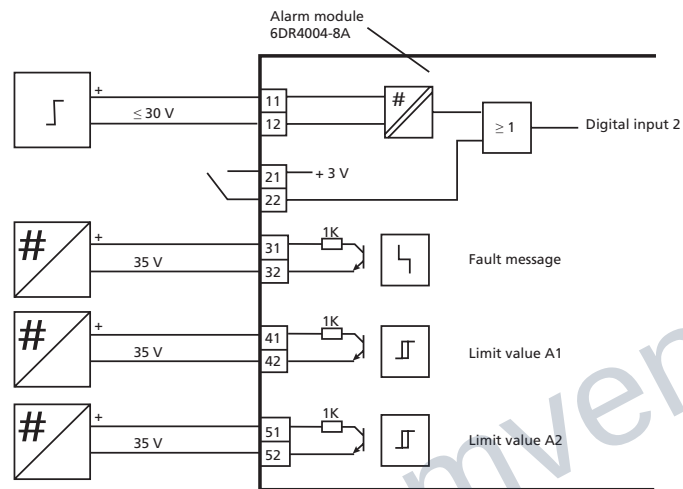

Figure 12. - Alarm unit 6DR4004-8A, not Ex
- Refer to Figures 12 and 13 to connect the Alarm unit in standard and intrinsically safe applications